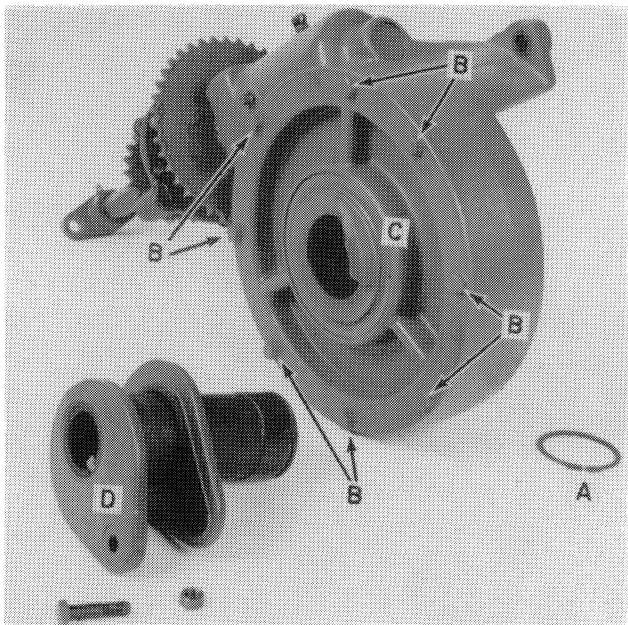

FIGURE 7
1. To remove the shear hub, D, remove snap ring, A, Figure 7. To remove the ring gear, remove cap screws, B, and cover, C, Figure 7.